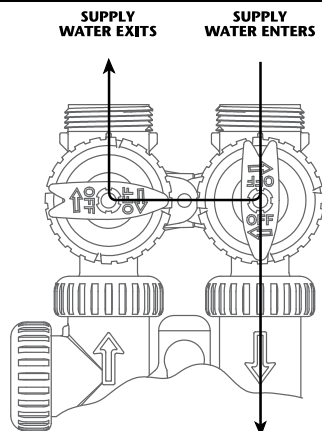

Figure 3
3. **Diagnostic Position:** The inlet handle points toward the control valve and the outlet handle points to the center of bypass valve. Untreated supply water is allowed to flow to the system and to the building, while not allowing water to exit from the system to the building (*figure 3*). This allows the service technician to draw brine and perform other tests without the test water going to the building.